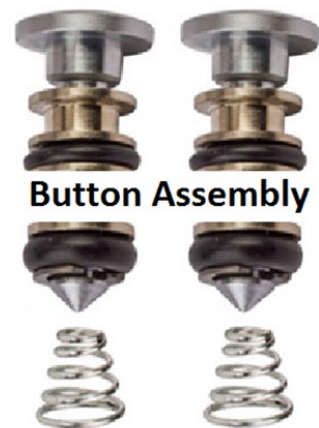

Fig. 1
- 5 When reinstalling the Button Assembly, verify that the Springs are in the orientation shown in Fig. 1 so the large end is to the bottom.